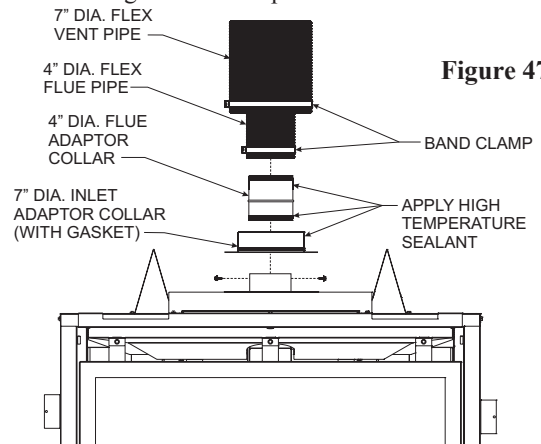

Figure 47
9. Apply sealant to the outside of the flue pipe adapter and connect to the flex flue pipe. Then insert the adapter into the fireplace flue. Secure flue adapter to the fireplace flue with a minimum of two screws provided. See Figure 47.